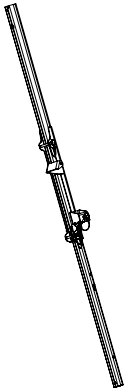

Fig. 6
1. First slide the attachment swivel of the Miller MightEvac into the rear part of the bracket (Fig. 6).